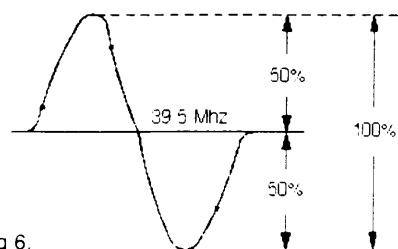

Fig 6.
- 3: Adjust T105 (AFC COIL). For waveform as shown in Fig.6.